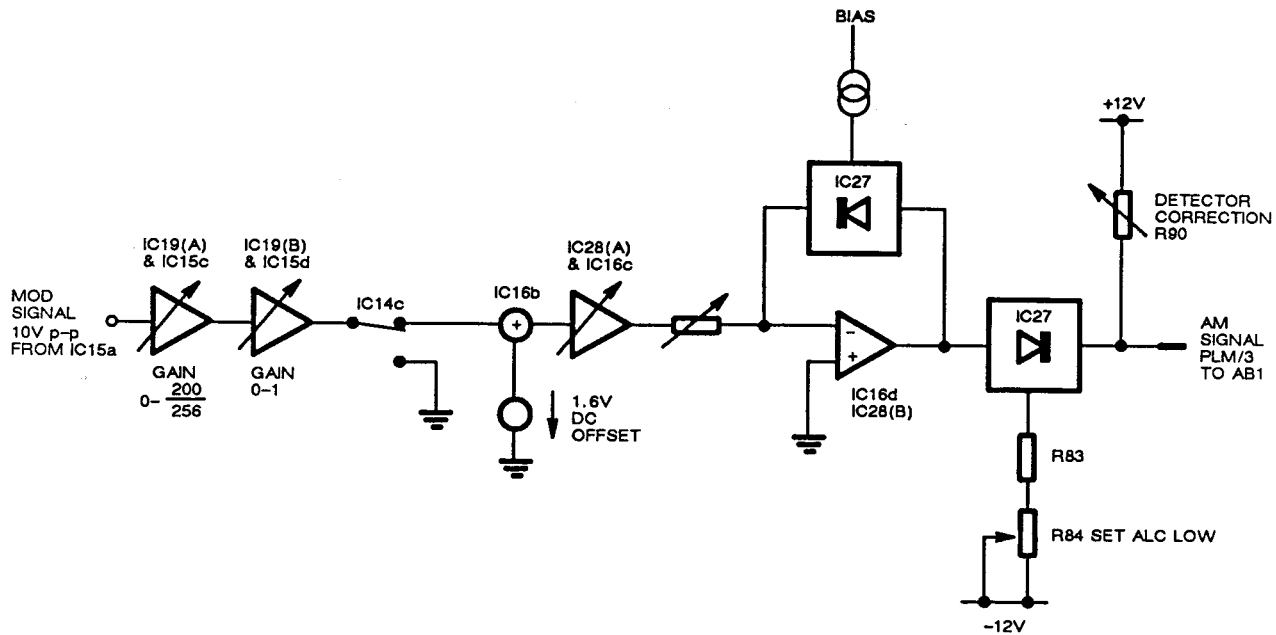

Fig. 4-15 AM signal path >62.5 MHz (A2/1)
128. The series path shown in Fig. 4-15 requires four sets of data to provide the correct signal. IC19(A) is loaded with a number proportional to the AM depth requested and IC19(B) has AM calibration data entered. IC28(B) will contain calibration data for the RF level and finally IC28(A) holds a number equal to the RF output voltage in mV (described in later paragraphs).